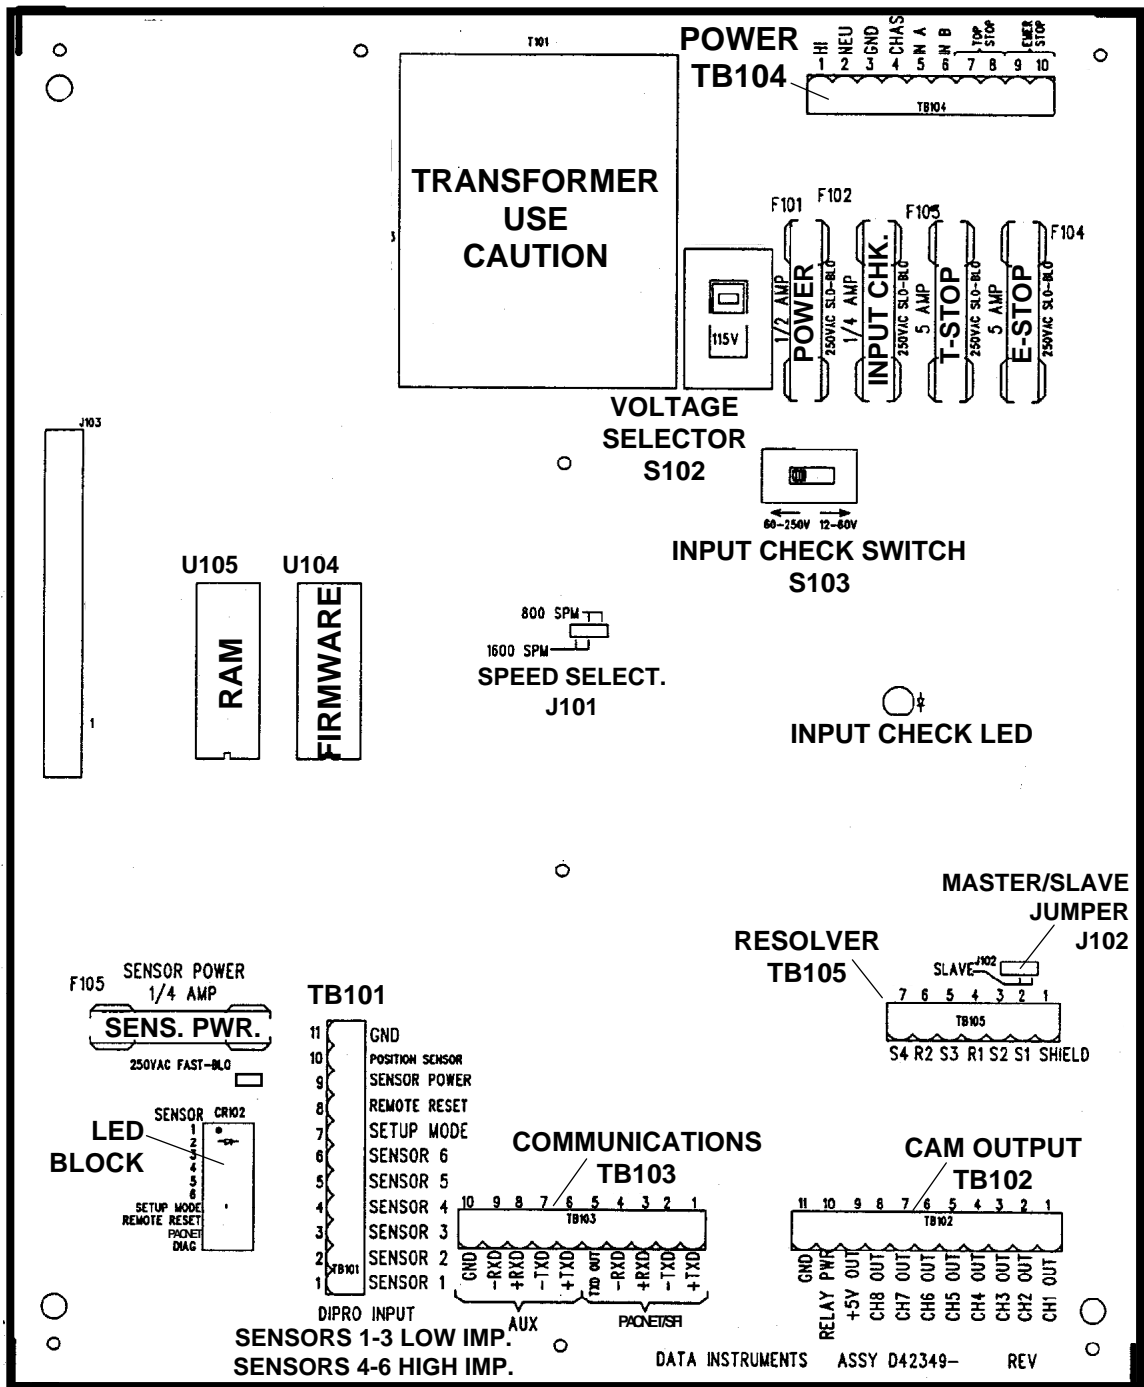

Figure 2-4. Location of components in DiPro 1500 (important items shown and labeled)
3. See Figure 2-4 for the location of the resolver connector TB105. Measure the resolver wires to fit and cut the wires. (If you also ran the position sensor cable through, do not cut these wires until the position sensor is installed).
1. See Figure 2-4 for the location of the resolver connector TB105 and the jumper J102.
3. Plug the 11-pin connector into TB101 (See Figure 2-4). This connector can only go one way. Double check your connections to make sure you started at the right end when connecting wires.
Wiring connections for AC power, for the emergency stop and top stop circuits, and for the input check circuit are on a connector just below the top knockout. See Figure 2-4. No. 16 wire is recommended for these circuits (No. 14 if local codes require it).
- b. For applications where dual safety valve coil voltage is 12-60 Vac or Vdc: Set switch S103 to the right. The switch is marked 12-60 V. *(This switch is located at the upper right-hand portion of the board. See Figure 2-4 for location of switch. See Figure 2-8B for illustration.)*